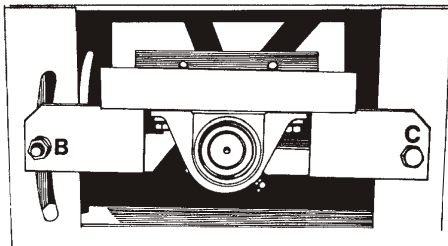
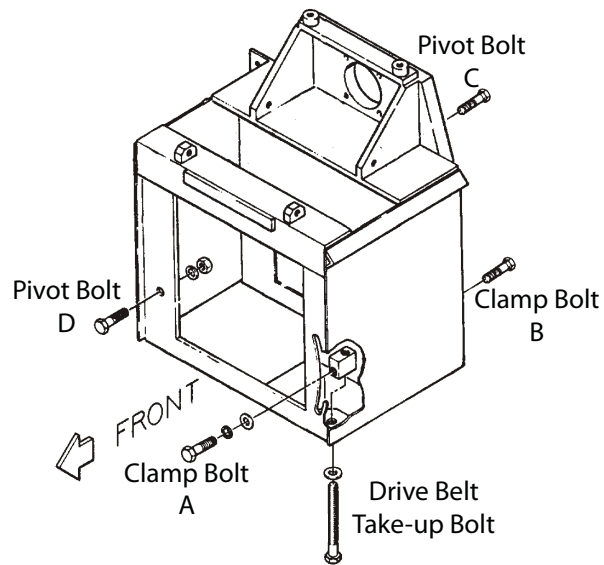

Figure 5-19. Take-up Plate
Figure 5-20. Take-up Plate
1. If adjustment is necessary, loosen clamp bolts (A) (front) and (B) (back) and pivot bolts (C) and (D) (see Figure 5-18, Figure 5-19, Figure 5-20).
2. Tighten take up bolt until the rear end of the drive unit belt take up has moved down approximately 1/4" (see Figure 5-19).
3. Tighten clamp bolt (B) (see Figure 5-19).
6. Tighten clamp bolts (A) and (B) and pivot bolts (C) and (D) (see Figure 5-20).